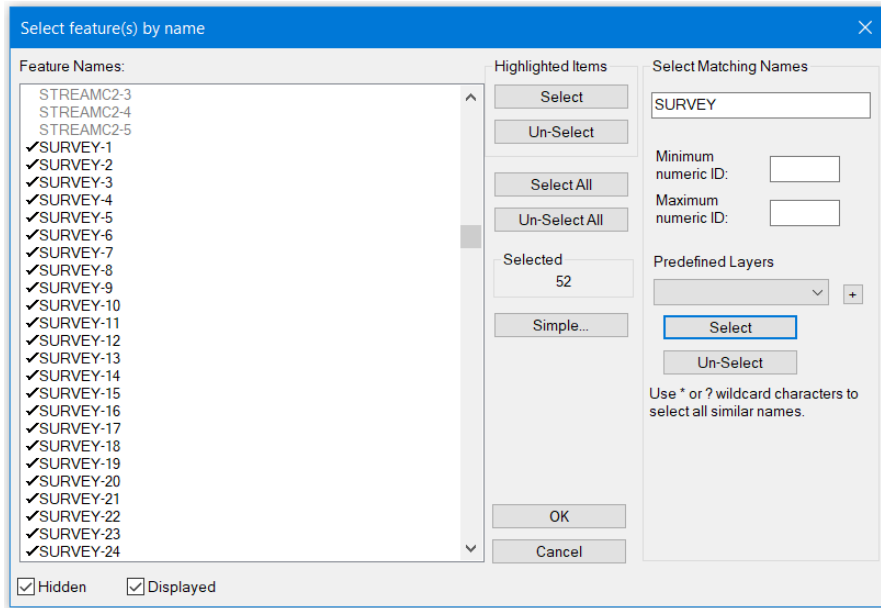

Figure 3-11: Select Feature(s) by Name Dialogue
3. Within the Select feature(s) by name dialogue box press the *Advanced...* button | Type **“Survey”** in the *Select Matching Names* | *Select* button. 52 items should come up as Selected. Press *OK*. The *Selected feature(s) by name* dialogue box should appear as in Figure 3-11.